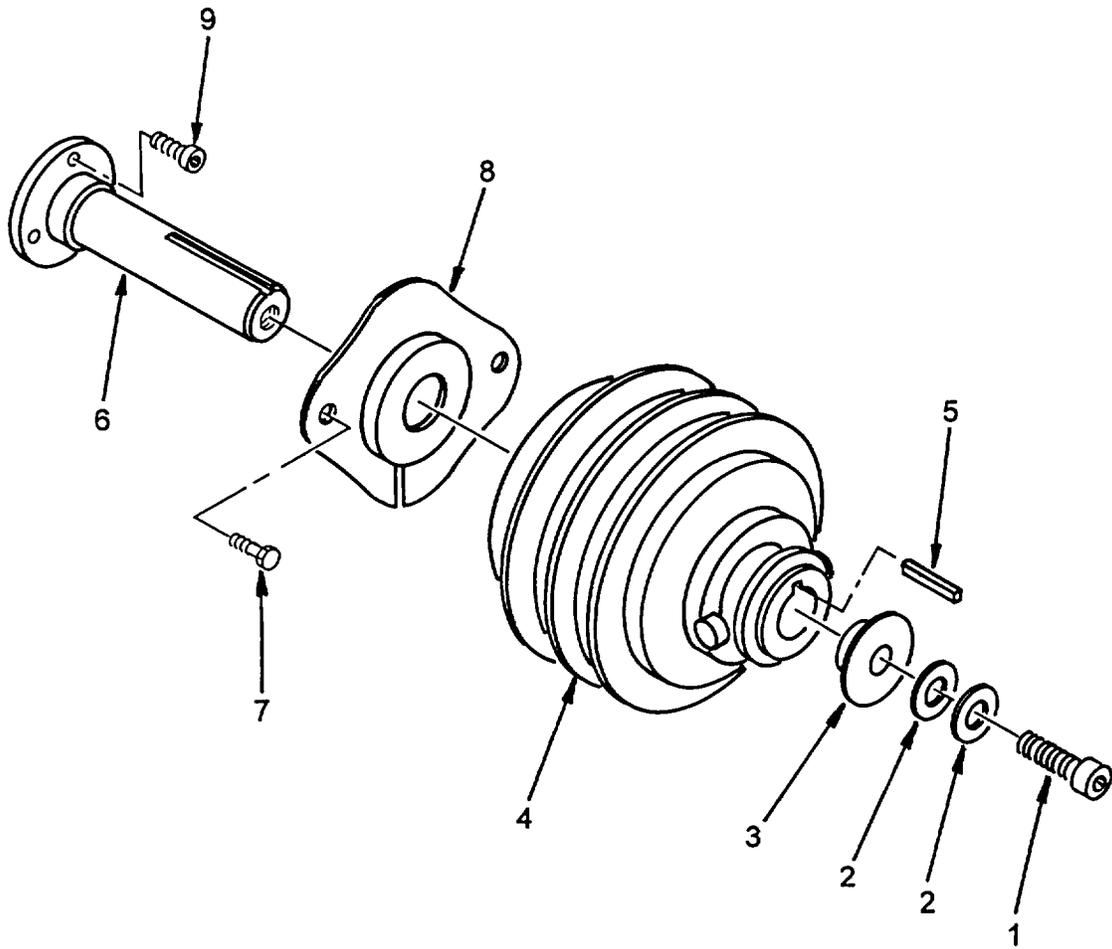

Figure 4-40. Clutch
**a. Removal.** (Refer to Figure 4-40).
- (1) Remove socket head-cap screw (1), lockwashers (2), and washer (3) from clutch (4). (3) Slide clutch (4) off of extension shaft (6).
- (2) Remove shaft key (5) from extension shaft (6).
- (3) Remove screws (7) and guard (8).
- (4) Remove screws (9) and extension shaft (6)